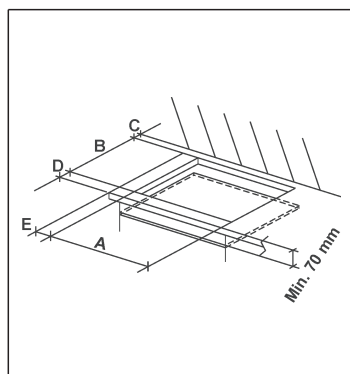

FIG. 7
The measurements of the opening made in the top of the modular cabinet and into which the hob will be installed are indicated in either fig. 7. Always comply with the measurements given for the hole into which the appliance will be recessed (see fig. 7 and 8).
- **IMPORTANT:** When not installing above an oven, underneath the appliance there must be a partition made of insulating material (e.g. wood). There must be a gap of at least 70 mm between the underneath of the appliance and this partition (fig. 7.).